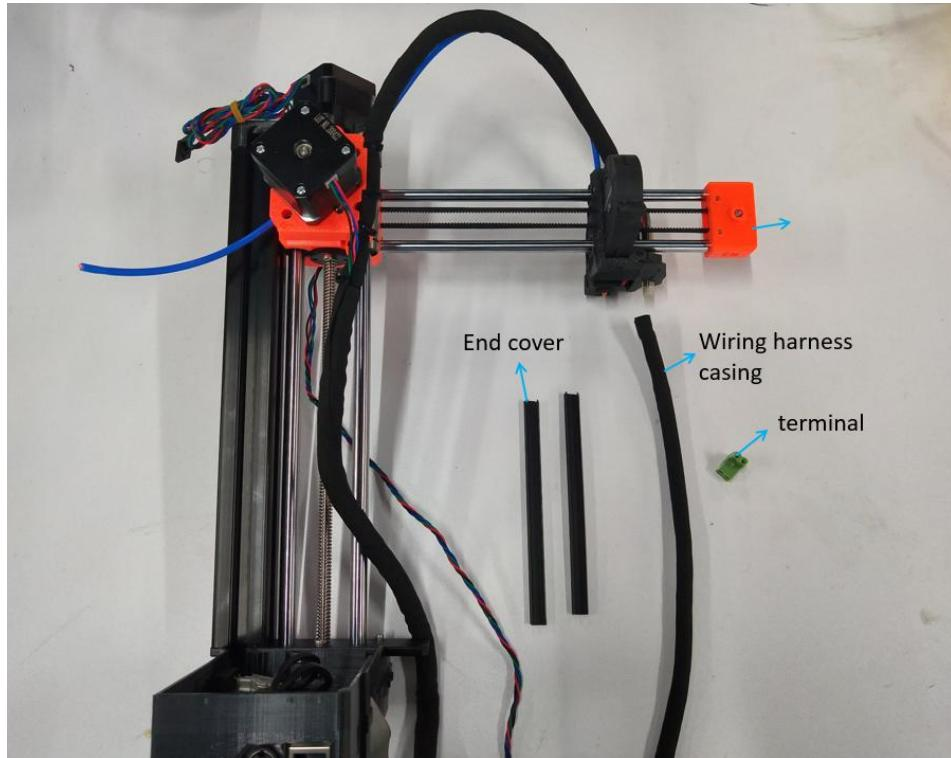

Figure 4.2.1
**Step 4-2-1:** As shown in Figure 4.2.1, prepare the materials and check whether the quantity of materials is correct, and prepare for the next installation.